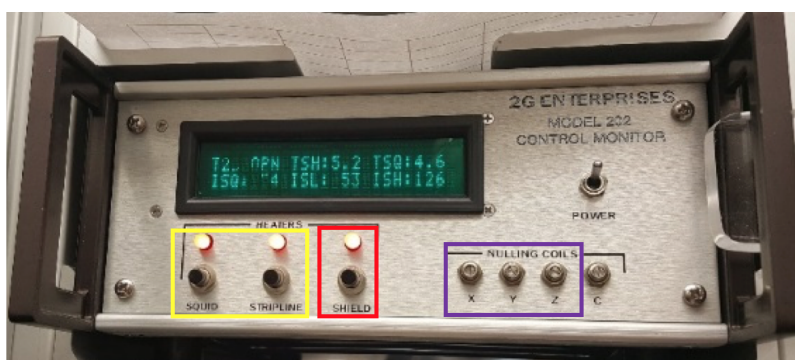

Figure A11: Model 202 Control Monitor with heaters on. The heater temperatures are now visible on the display.
7. Turn on the heaters by pressing the black buttons on the front of the Control Monitor (**Figure A11**).
11. While monitoring the readouts on the fluxgate, use a small screw driver to turn the nulling coil potentiometer on the control monitor box (**Figure A11 and A12**). Adjust the fluxgate readouts to as close to zero mOe as possible.